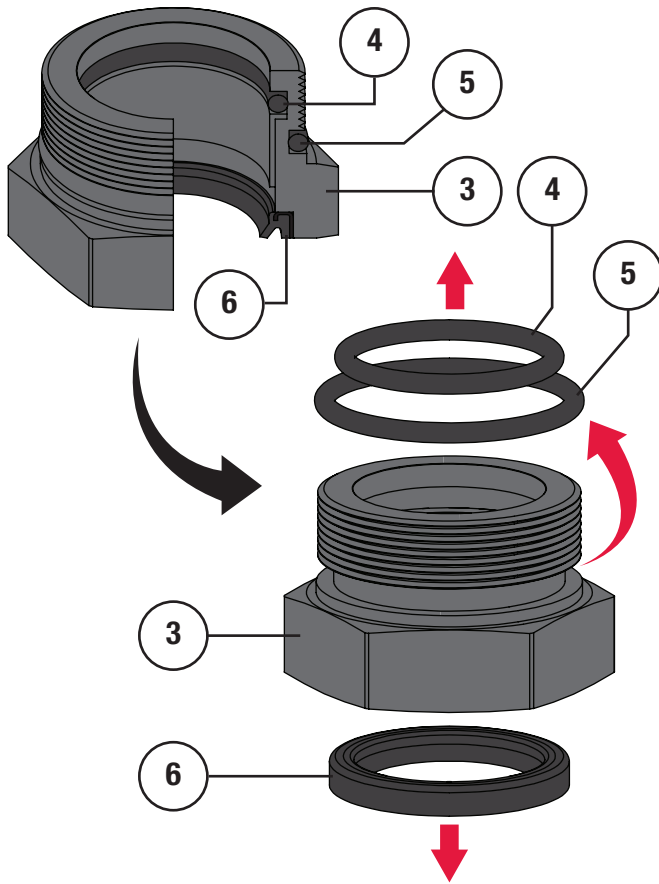

Figure 17 Bushing O-Ring Removal
- 10 Using a mechanic's pick set, remove both o-rings (Key 4 & 5) and lower wiper (Key 6) from the bushing (Key 3). Refer to Figure 17.